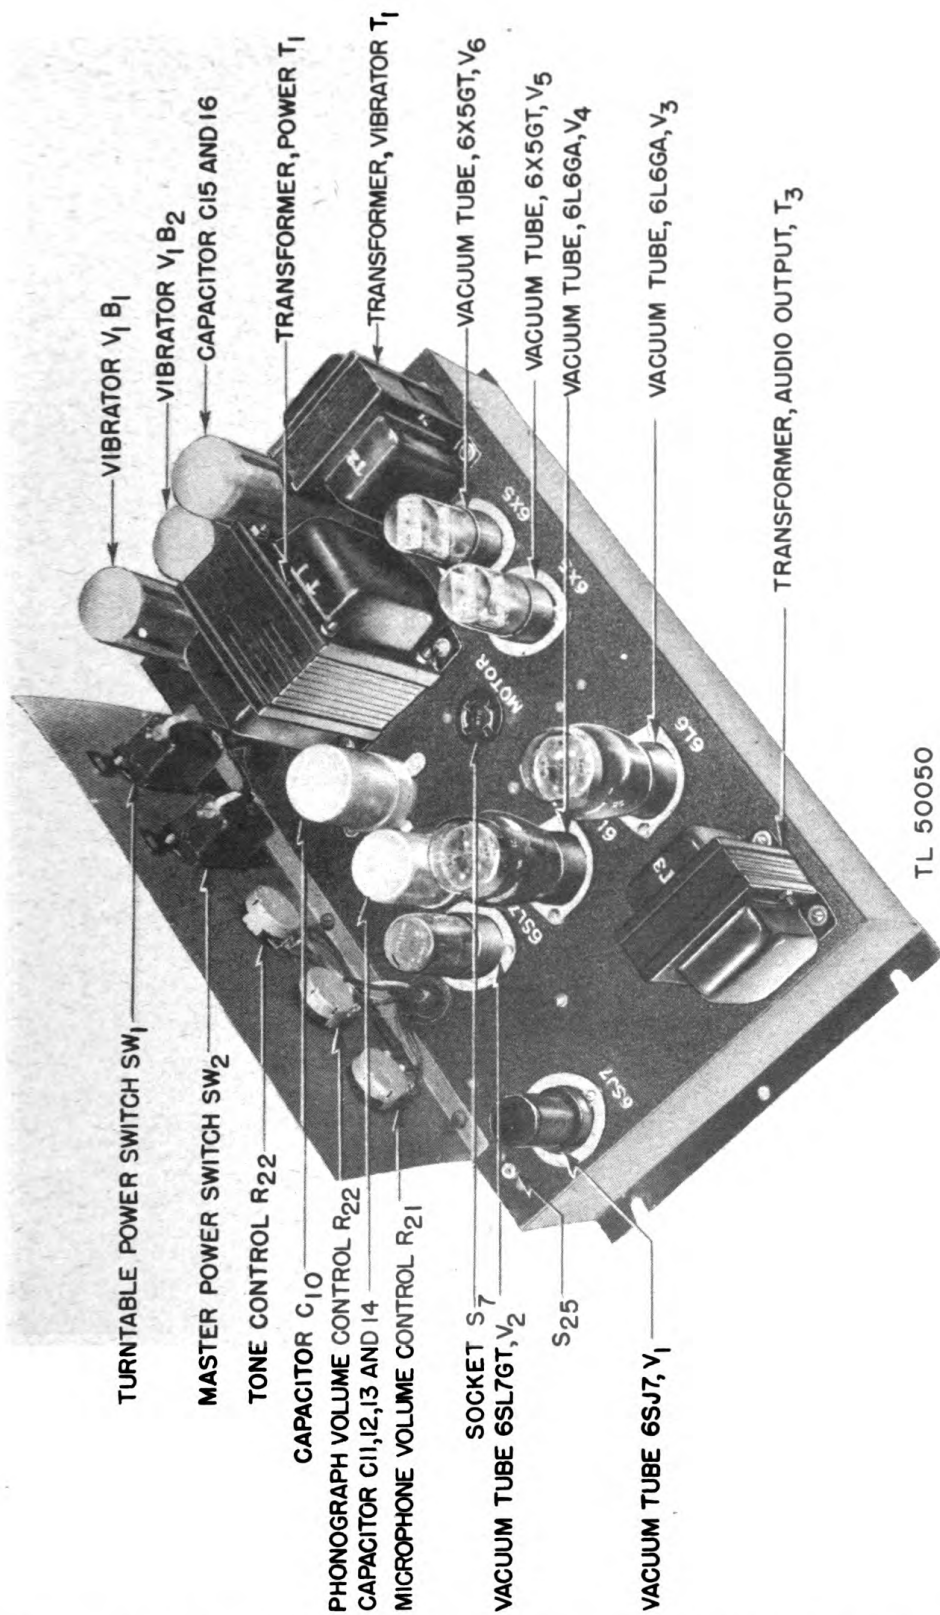

Figure 16. Amplifier and Record Player BC-1292, for PA-5-(*), top view of chassis
34. AMPLIFIER BC-1292 (See figures 16, 17 and 18).
(c) Defective vibrators VIB ₁ , VIB ₂ .	Replace defective vibrators (fig. 16).
(d) Defective tube (V ₁ , V ₂ , V ₃ , V ₄ , V ₅ , or V ₆).	Replace defective tubes (fig. 16).
(b) Defective tubes.	Replace tubes (fig. 16).
(1) Defective amplifier (a) Defective tubes.	Check and replace (fig. 16).